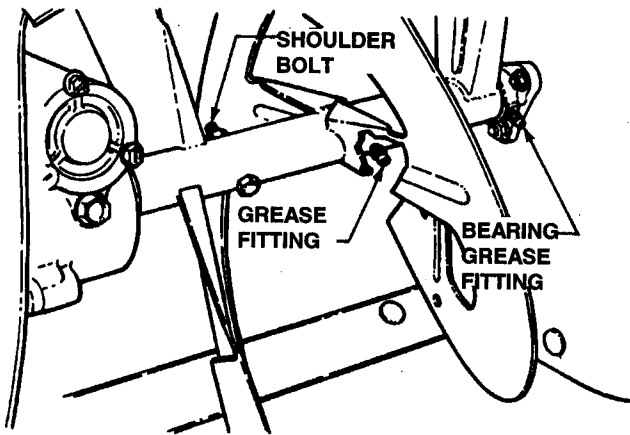

FIGURE 4.12
2. Install new shear bolts and nuts. Tighten to 5 to 10 ft. lb. of torque. See Figure 4.12.